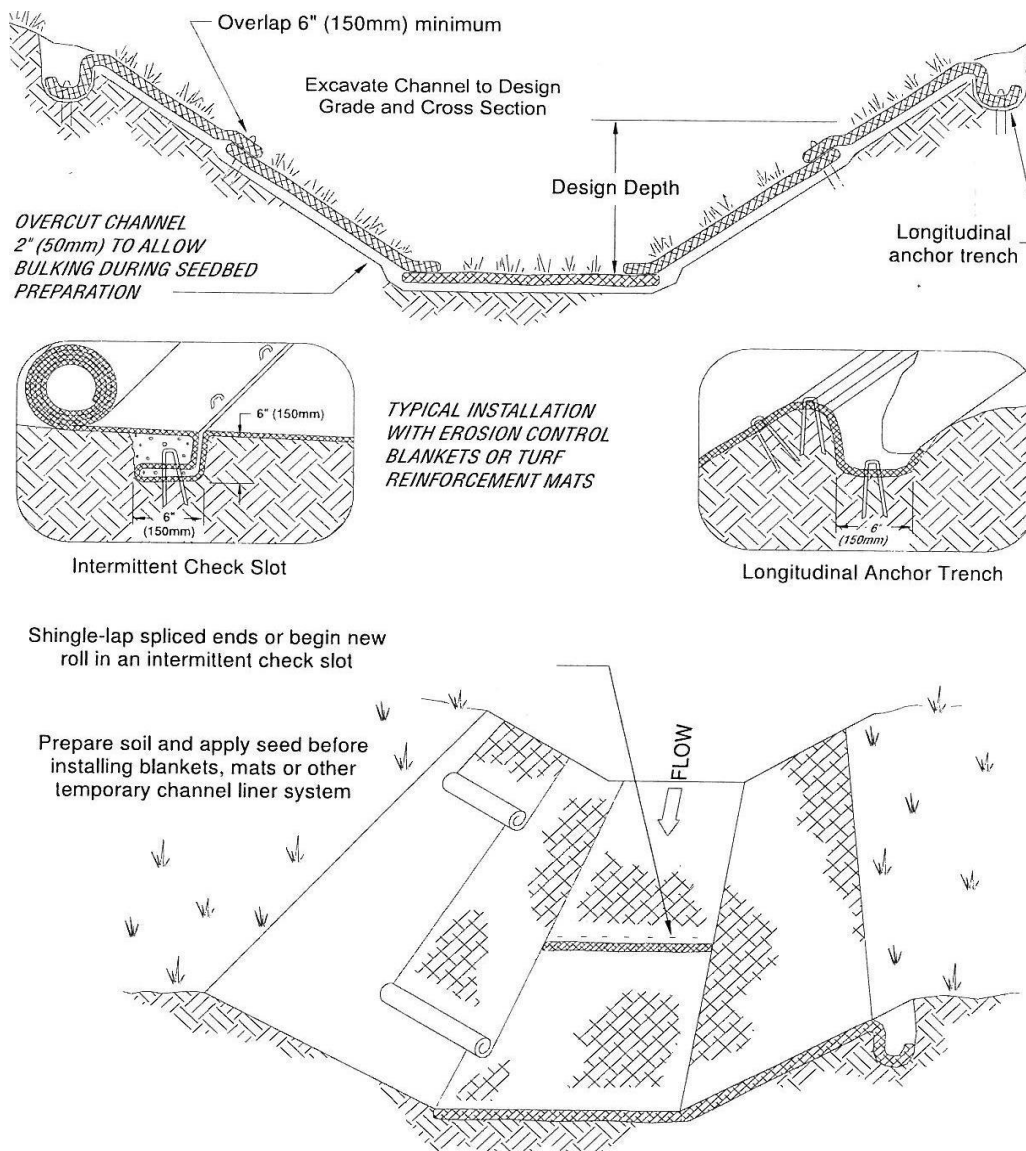

Figure 6. Installation of channel liners for temporary stabilization of a typical grass lined channel.
- If design velocity of a channel to be vegetated by seeding is higher than 2 fps, install a channel liner. Geotextile, special mulch protection, blankets or netting provides stability until the vegetation is fully established. See Figure 6.